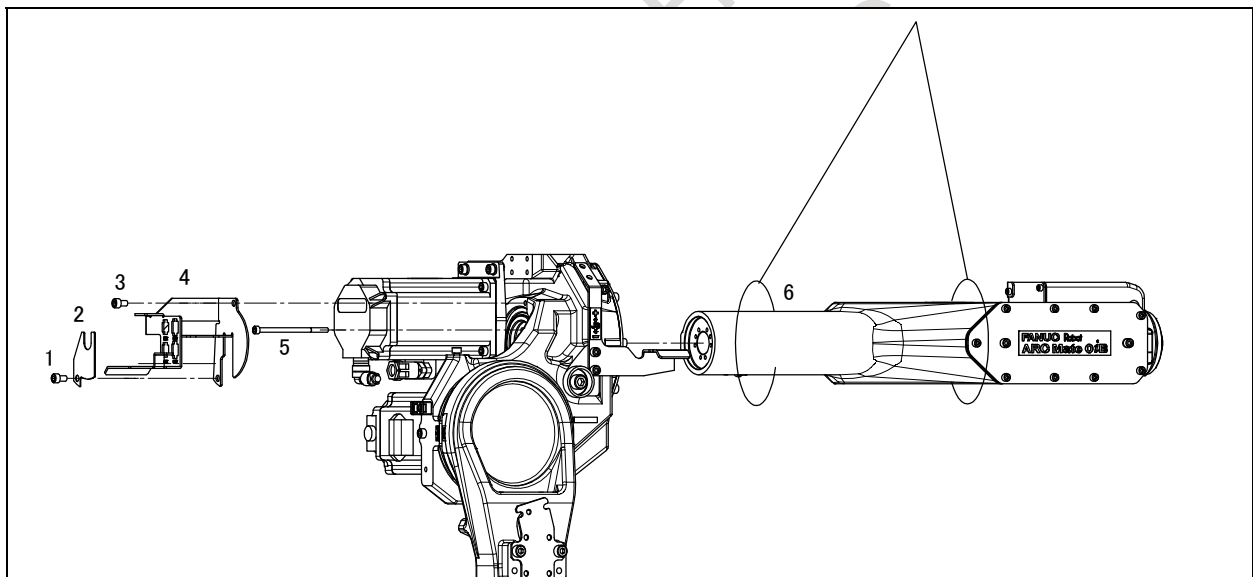

Fig.4.12 (a) Replacing the wrist unit
- 5 Wind sling around the 2 places of J3 arm and hang it referring to Fig.4.12 (a).
- 8 Remove bolts (1) and the plate (2).
- 9 Remove bolts (3) and the clamp (4).
- 10 Remove bolts (5).
- 11 Remove the wrist unit (6) from the J3 casing.